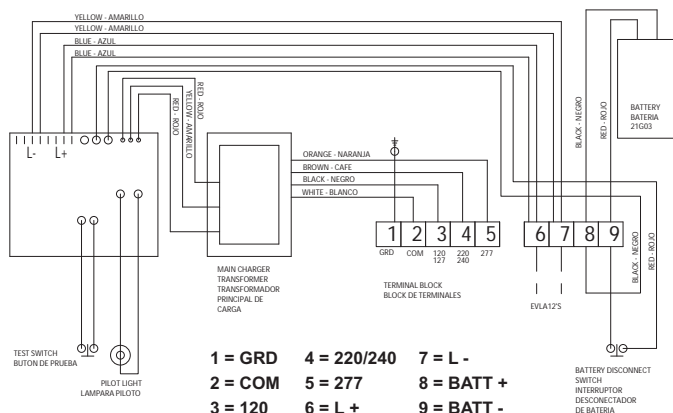

Figure 7. Wiring Diagram
- Make all incoming wiring connections following the wiring diagram located in the new assembly (also see Figure 7) and re-connect the EVLA12 light fixture(s) or EXIT sign wire leads removed in STEP 5